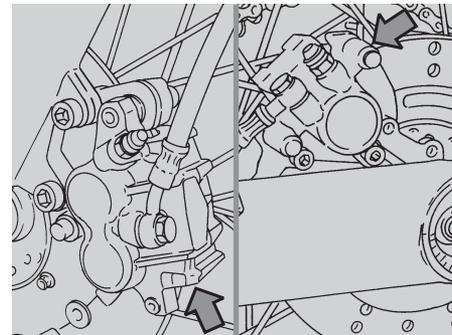

Fig. 49
CHECKING THE BRAKE PAD WEAR (Fig. 49)
- ◆ Check the distance between the electrodes (Fig. 49) with a thickness gauge. The distance must be 0,6 ÷ 0,7 mm; if necessary adjust it, carefully bending the earth electrode.